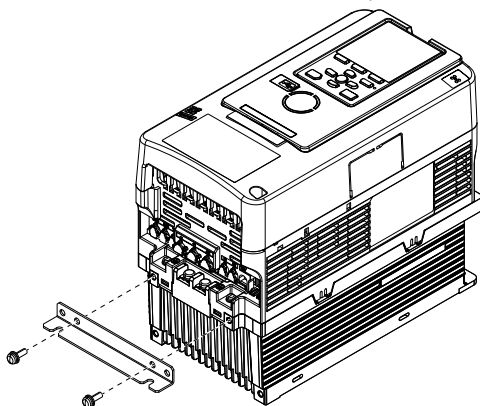

Figure 5.6 Attach the Mounting Bracket
2. Install the mounting bracket in the position shown in Figure 5.6.